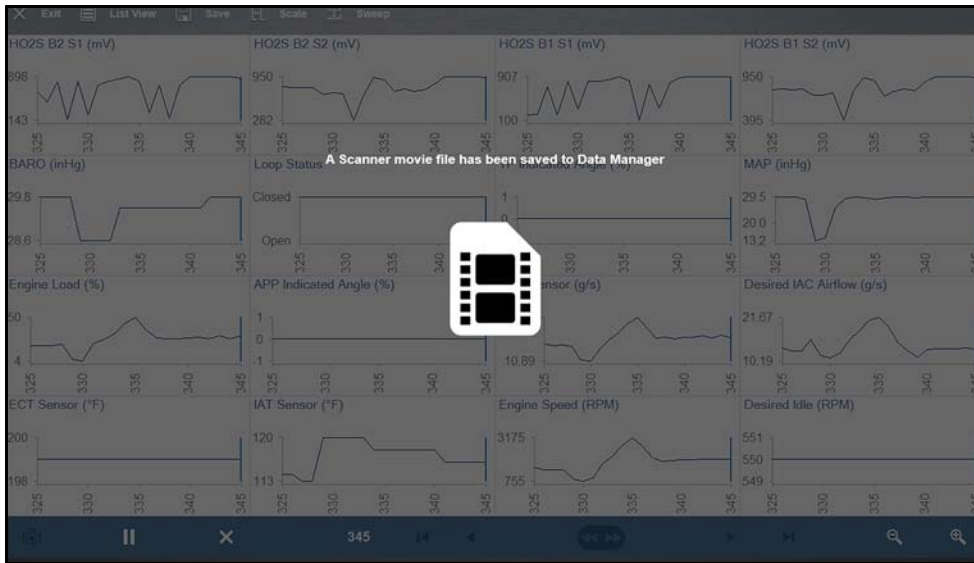

Figure 4-46 Typical - Activated trigger saved data file screen
- A message displays indicating a data file was saved (Figure 4-46).